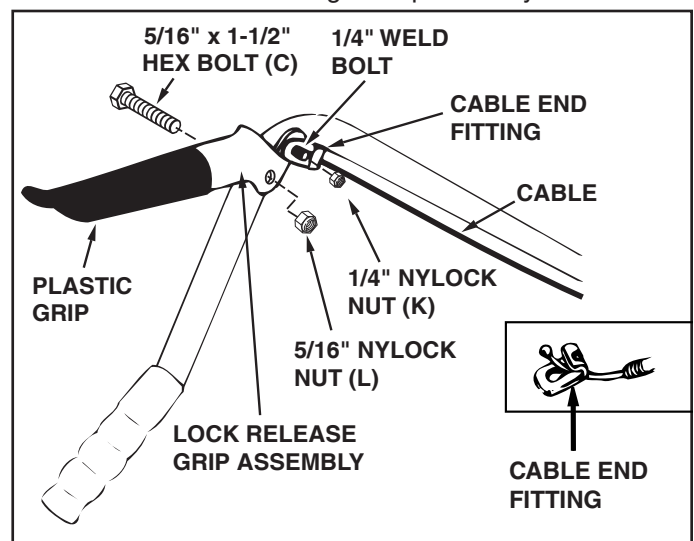

FIGURE 25 (Right Hand Side View)
STEP 11: (SEE FIGURE 25)
- Attach lock release grip assembly to lift handle tube using one 5/16" x 1-1/2" hex bolt (C) and one 5/16" nylock nut (L). **Do not overtighten** the nut. The grip assembly must pivot freely.
- Assemble the ball end of the cable to a cable end fitting as you did to the other end of the cable. Secure the cable end fitting to the weld bolt on the lock release grip with a 1/4" nylock nut (K). **Do not overtighten** the lock nut. The cable fitting must pivot freely.